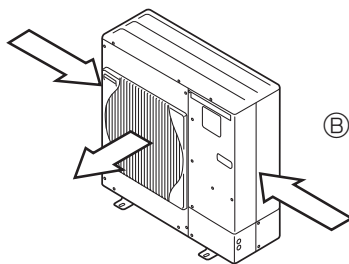

Fig. 1-4
- ③ Position the unit so that the outlet air can blow at right angle to the seasonal wind direction, if possible. (Fig. 1-4)
(1) When installing a single outdoor unit (Refer to the next page)